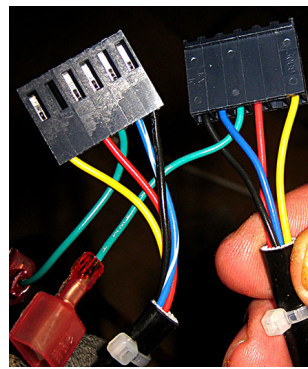

Figure 14
- NOTE:** For a full vat use the two harnesses with the blue/white wire on both modules. If dual vat, use the two harnesses with the solid blue wire on both modules (see Figure 14).